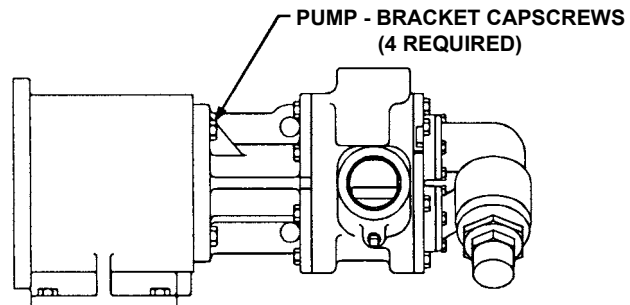

FIGURE 17
3. Support the pump from overhead and secure coupling bracket to avoid tipping when pump is attached. Using the canister as a guide, slide the pump assembly up to the coupling bracket through the smaller opening. Secure with the four 0.5" capscrews. See Figure 17.